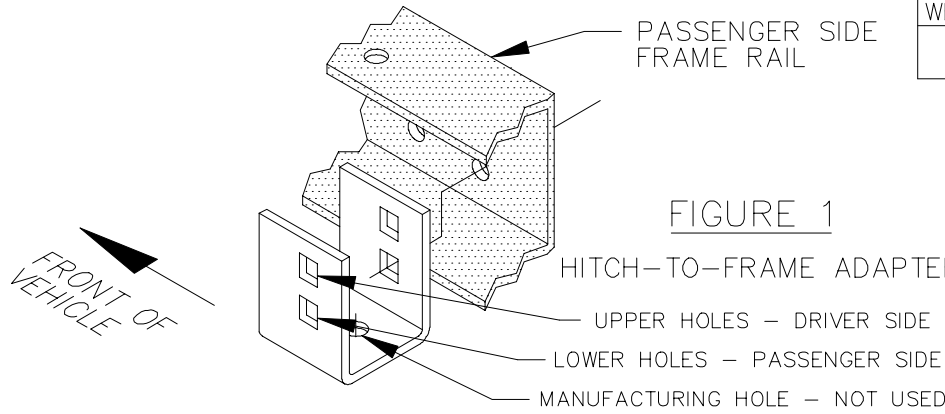
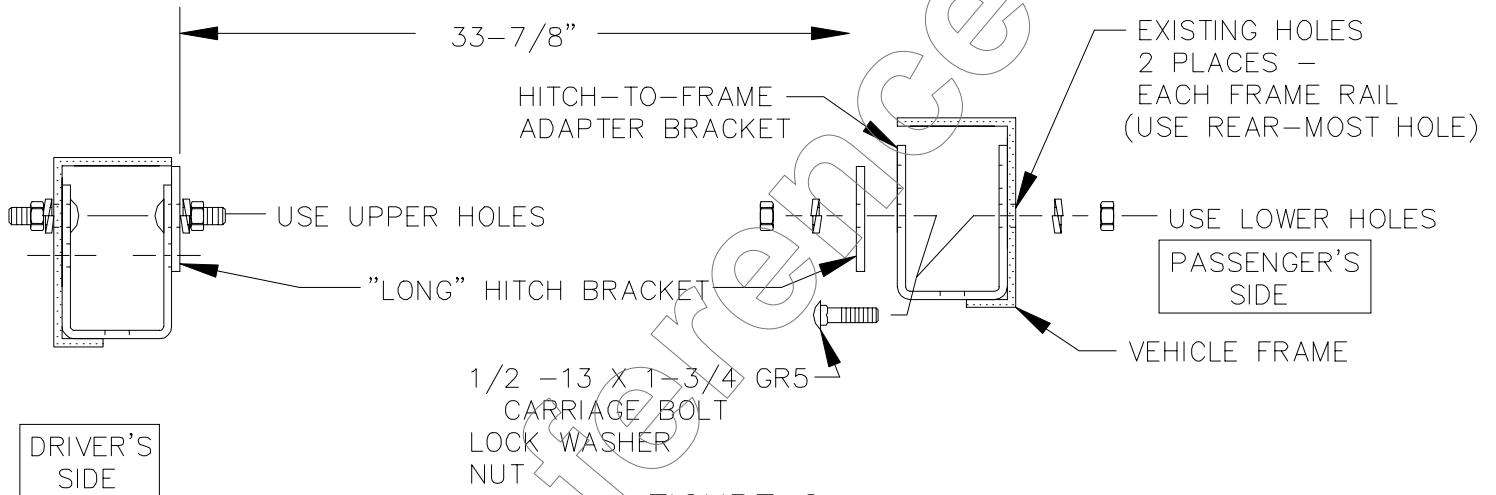

FIGURE 1
FIGURE 2
3. ORIENT ADAPTER BRACKETS AS SHOWN IN FIGURE 1. PLACE BRACKETS IN VEHICLE FRAME, ALIGNING WITH EXISTING HOLES WHICH WERE LOCATED IN STEP 1. INSTALL ALL BRACKET-TO-FRAME FASTENERS AS SHOWN IN FIGURE 2.
INSTALL HITCH TO ADAPTER BRACKET FASTENERS AS SHOWN IN FIGURE 2.